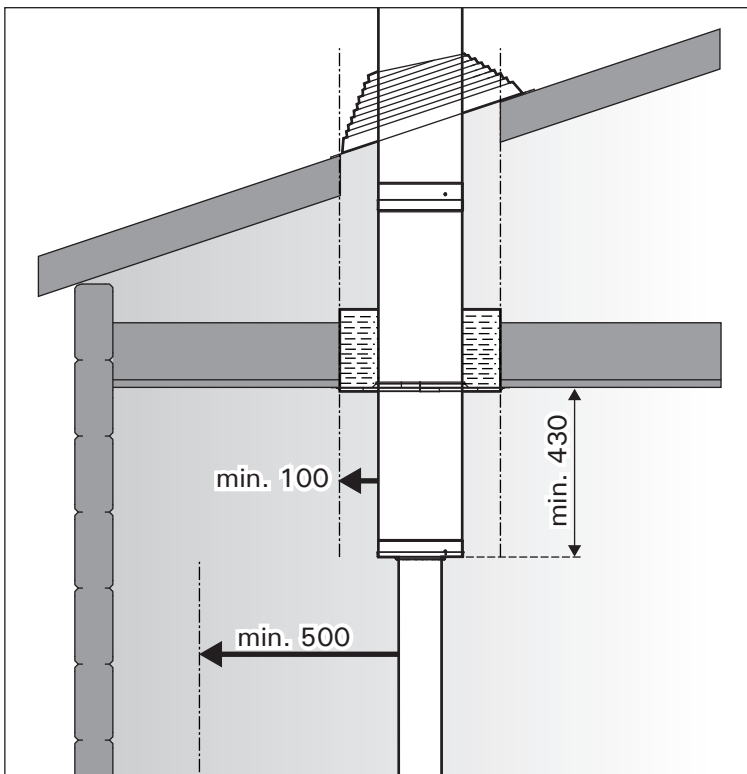

Figure 2. Safety distances (all dimensions in millimeters)
- The safety distance between the inflammable structures and the chimney outer casing must be minimum **100 mm**. Figure 2.
- If the connecting pipe in the forward end is of non-isolated material, the safety distance from this pipe to inflammable construction materials needs to be **500 mm**. Figure 2.
- The isolated chimney should be visible up to a minimum of **430 mm**. Figure 2.